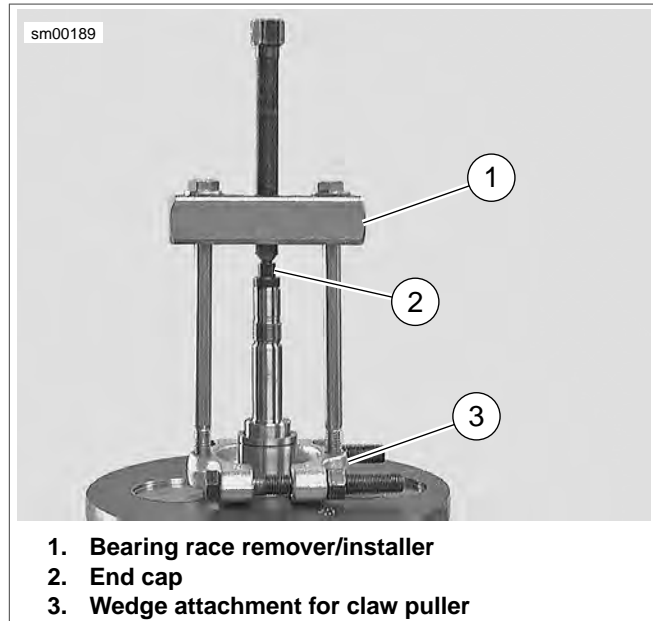

Figure 3-131. Removing Pinion Bearing Inner Race
- See Figure 3-131. Pull inner race from pinion shaft using WEDGE ATTACHMENT (Part No. HD-95637-46B) for CLAW PULLER (Part No. HD-95635-46) with BEARING RACE REMOVER/INSTALLER (Part No. HD-34902B) and END CAP (Part No. HD-34902-7). Apply heat to race to aid removal.